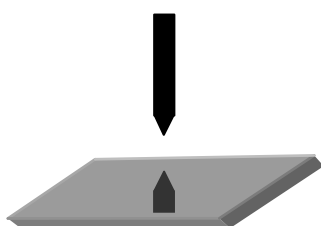

Fig. 5.5 Manual coarse tip approach. Watch the tip reflection on the surface
14. Check that the Head Parameters match those in figure 5.5\*.